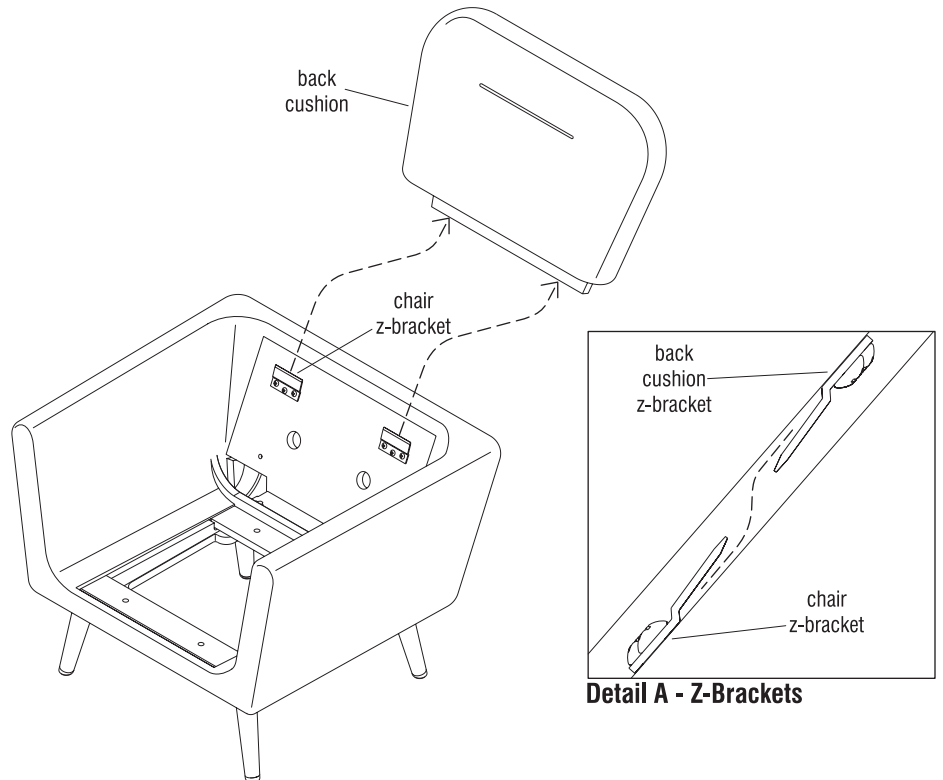

Figure 2
5. To install the new cushion, lower it down onto the chair with the z-brackets facing the chair frame. Make sure the z-brackets engage with each other (Figure 2 & Detail A).